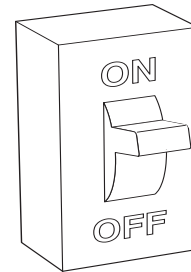

Fig. 10 – Turn On Electrical Supply
- Turn ON the electrical supply to the furnace, see Fig. 10.
8. Turn on electrical supply to furnace, see Fig. 10.
4. Restore electrical power to the furnace, see Fig. 10.